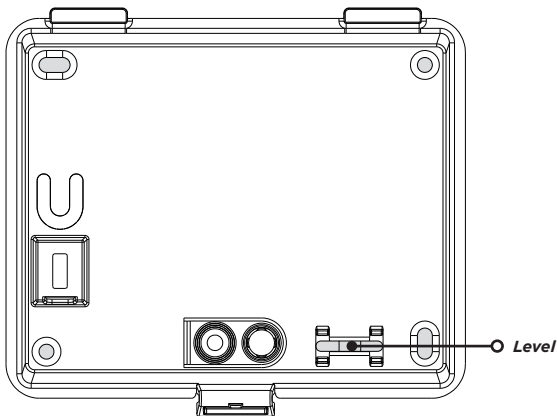

Figure 2: Mounting Hole Locations
2. Use the include mounting template, level, and #6 screws to mount the backplate to the wall. See Figure 2 for mounting hole locations.